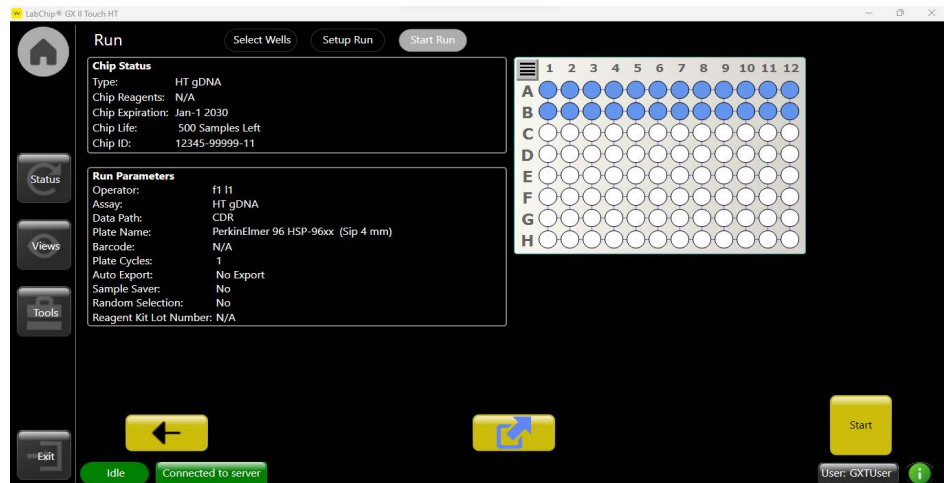

Figure 12. Starting a run.
- 4 Touch *Start* to begin the run (Figure 12).